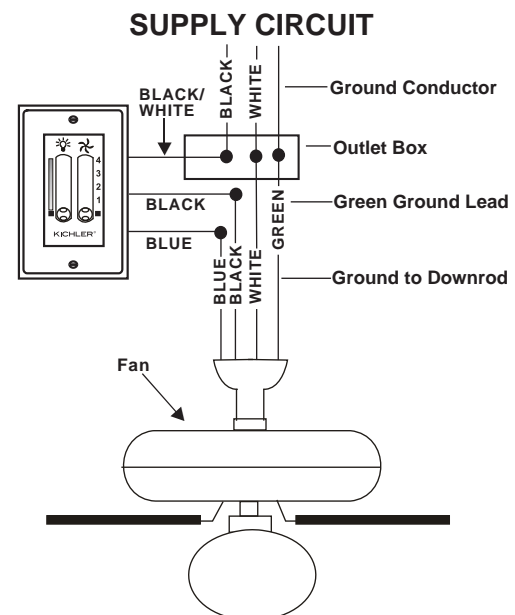

Fig. 3
- Make each of the wire connections illustrated in Figure 3. Secure each with the wire nuts provided.